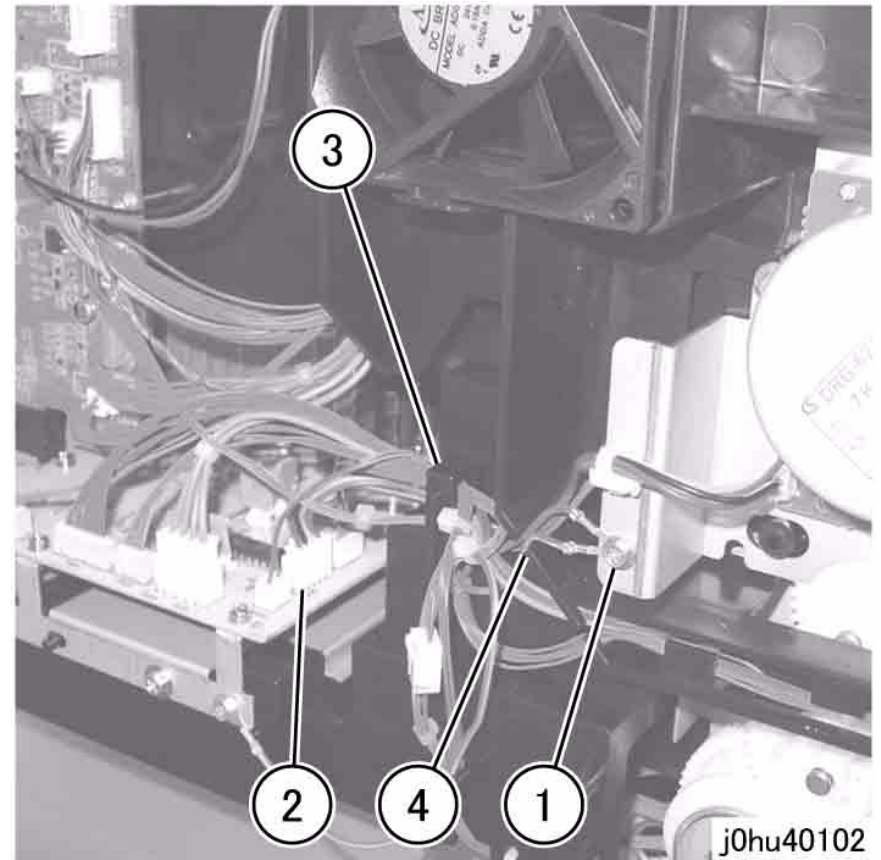

Figure 1 Disconnect Connectors
3. Disconnect the connector (Figure 1).